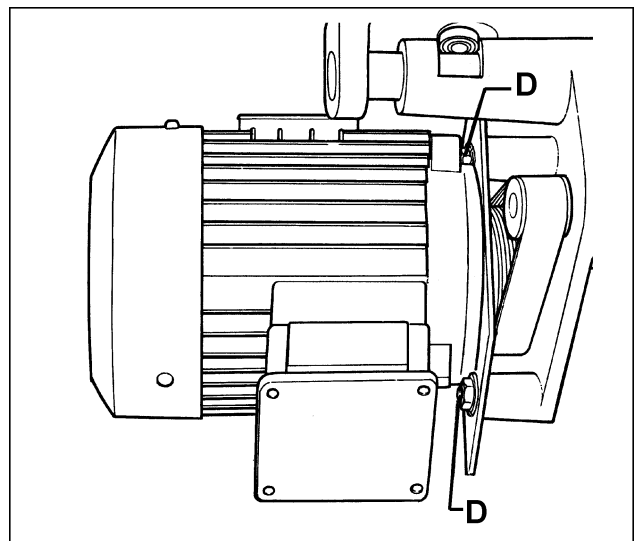

FIGURE 34
1. Loosen the two nuts (D-Fig. 34) which hold the scoring motor, and push the motor down.